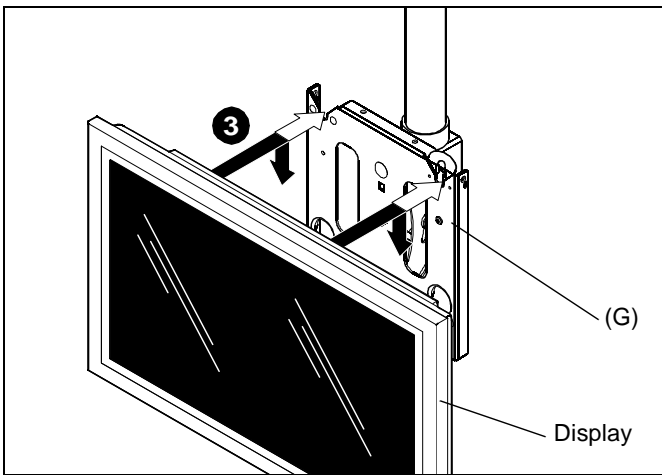

Figure 10
3. While supporting both sides of display, align four mounting buttons (M) on display or interface bracket with four mounting holes on faceplate (G). (See Figures 10, 11 and 12)
4. Lower display into place listening for audible “click” to ensure recessed area of mounting buttons (M) are properly seated in lower area of mounting holes. (See Figures 10, 11 and 12)